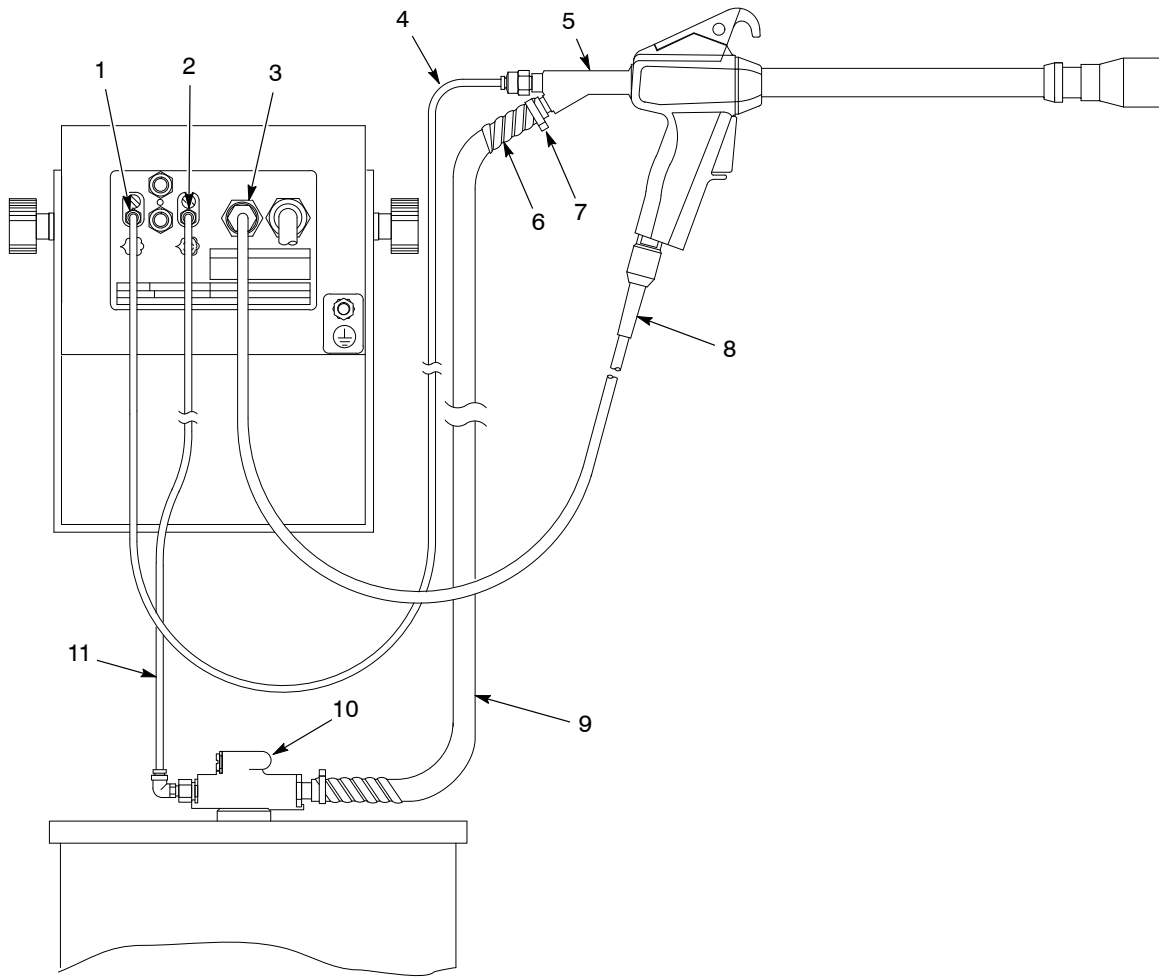

Figure 3 Spray Gun Connections
1. See Figure 3. The spray gun is shipped with the cable (8) installed. Connect the cable end to the SPRAY GUN OUTPUT receptacle (3) on the back of the Tribomatic II control unit.
2. Install black 6-mm air tubing (11) between the flow-rate air fitting (2) on the control unit and the fitting on the powder pump (10).
3. Install blue 6-mm air tubing (4) between the diffuser air fitting (1) on the control unit and the diffuser (5).
4. Install 9-mm ( $\frac{3}{8}$ -in.) ID powder feed hose (9) between the powder pump and the diffuser. Install a few inches of spiral-cut tubing (6) on the feed hose at the diffuser and pump connection points. Secure the spiral-cut tubing with a clamp (7). The tubing will prevent the hose from kinking and blocking the flow of powder.